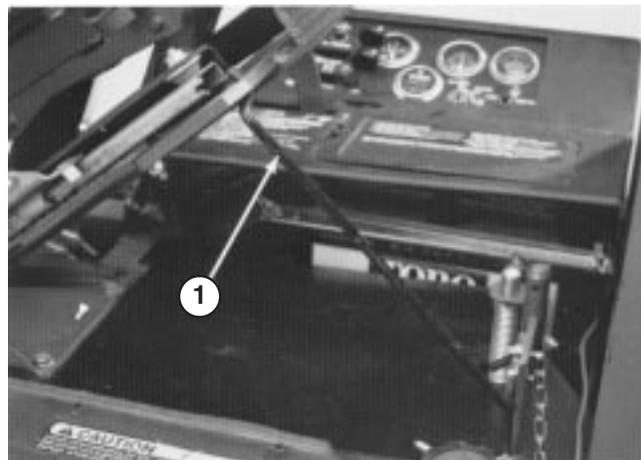

Figure 10
10. Hold seat up with seat support rod (Fig. 10).
12. Hold seat up with seat support rod (Fig. 10).